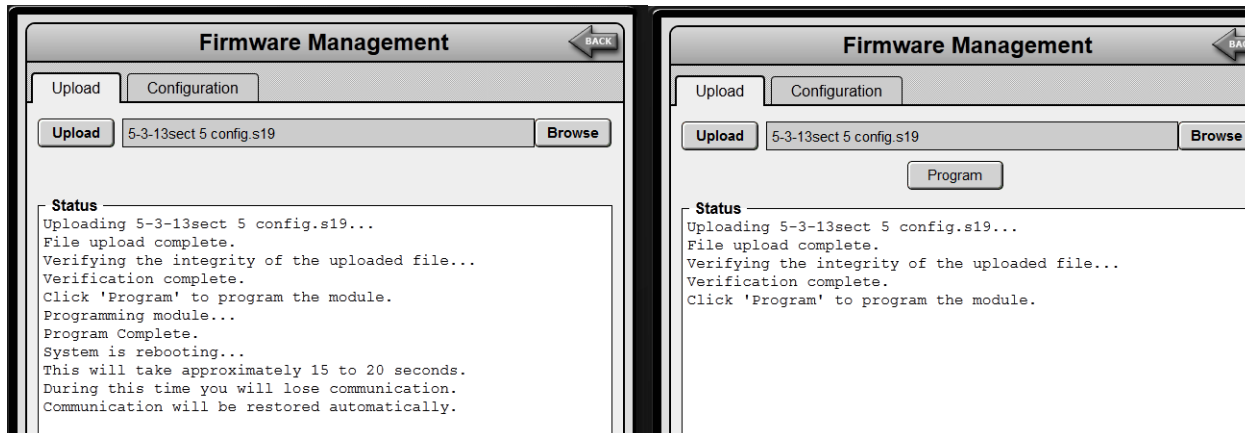

**Figure 5-2 FAX GUI ISP Screen**
- STEP 2** Open a web browser and establish a connection, once there is a connection from the HOME page navigate to the System>> ISP menu and click on the Configuration tab. See Figure 5-2.
**STEP 6** Once the file upload is complete the screen should appear similar to Figure 5-2 on the right. Click on the PROGRAM button, it will take 15 - 20 seconds for the config file to be programmed into memory. Once programming is complete the FAX will automatically reboot.